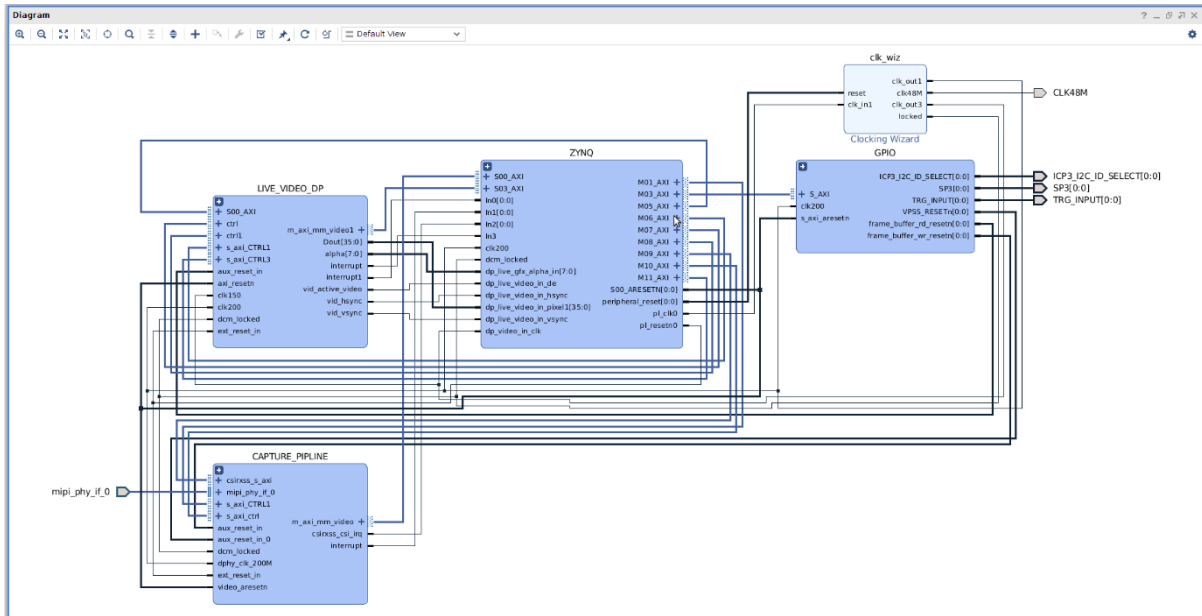

Figure 16. Block diagram of the image processing system
4. Note how there are four hierarchical elements in the block design (see Figure 16). These blocks contain the Zynq MPSoC processing system, the capture pipeline, live video display port and the GPIO needed in the system.